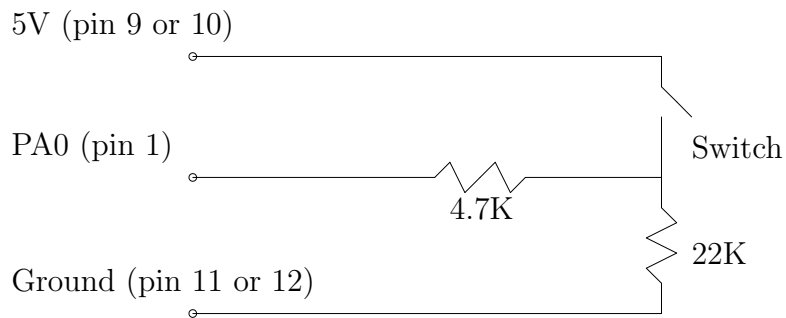

Figure 2: *Typical input connection*
8. Connect the input circuit as shown in figure 2.
2. Connect the input circuit as shown in figure 2.